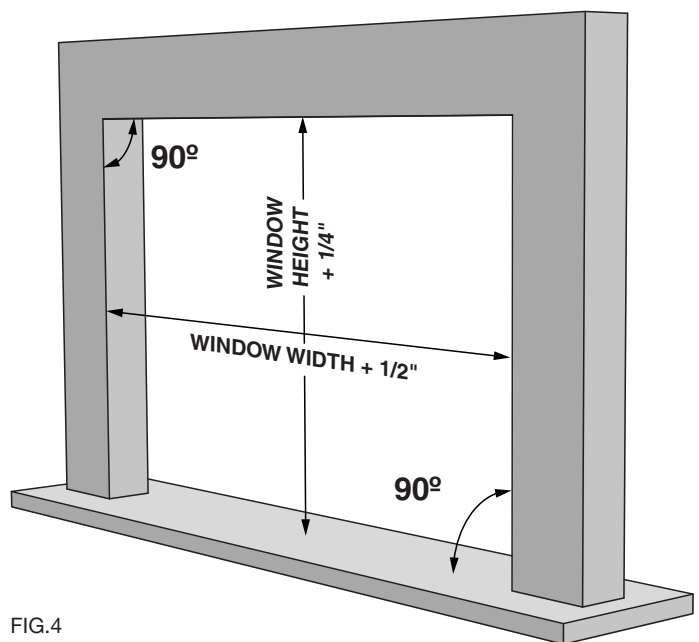

FIG.4
7. Adjust if necessary as illustrated in **(Figure 4.)**
The opening itself must be square to within the 1/4" or less to avoid frame deflection resulting in binding of the sliding window leaf **(FIGURE 4.)**